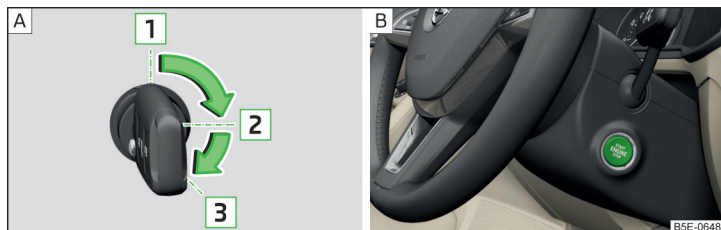

Fig. 239 Positions of the vehicle key in the ignition lock / starter button
**Positions of the vehicle key in the ignition lock** » Fig. 239 - A
» Press the » Fig. 239 - B button, the ignition is turned on / off.
» On vehicles with **Ignition lock**, turn the key to position **3** and the engine starts » Fig. 239 on page 200 A. Release the key, the engine will start automatically.
» On vehicles with **starter button**, press the button briefly » Fig. 239 on page 200 - B, the motor will start automatically.
» On vehicles with **ignition lock**, turn the key to position **1** » Fig. 239 on page 200 A.
» On vehicles with **starter button**, press the button » Fig. 239 on page 200 - B, The engine and the ignition will be switched off simultaneously.
» Keep the knob pressed » Fig. 239 on page 200 - B or press it twice within 1 second.